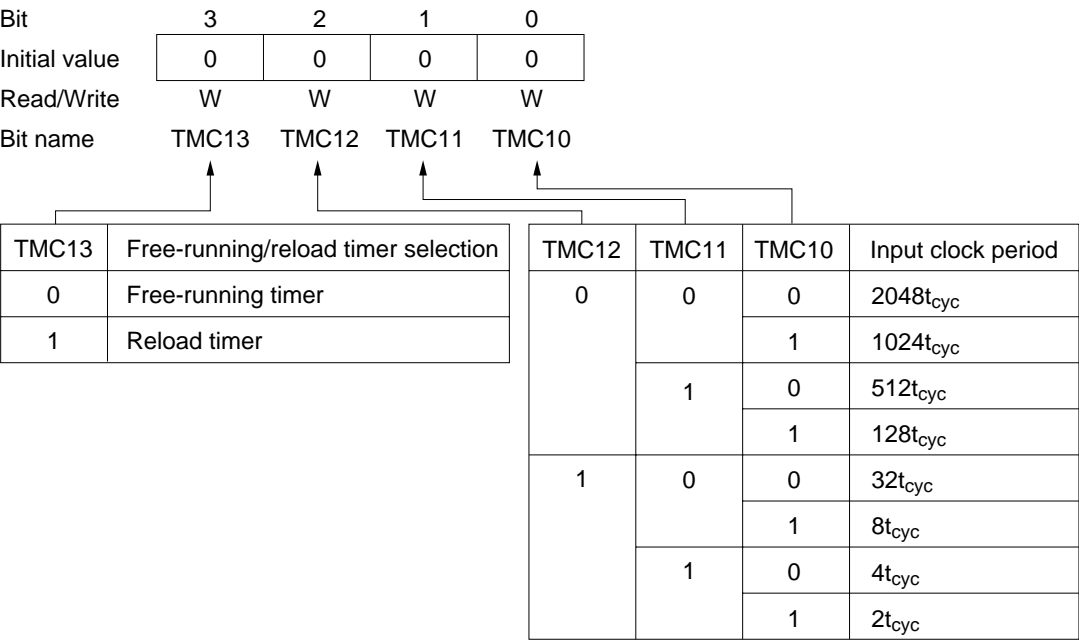

Figure 34 Timer Mode Register C1 (TMC1)
T: Input clock period to counter (figures 34 and 41)
- **Timer mode register C1 (TMC1: \$00D):** Four-bit write-only register that selects the free-running/reload timer function, input clock source, and the prescaler division ratio as shown in figure 34. It is reset to \$0 by MCU reset.